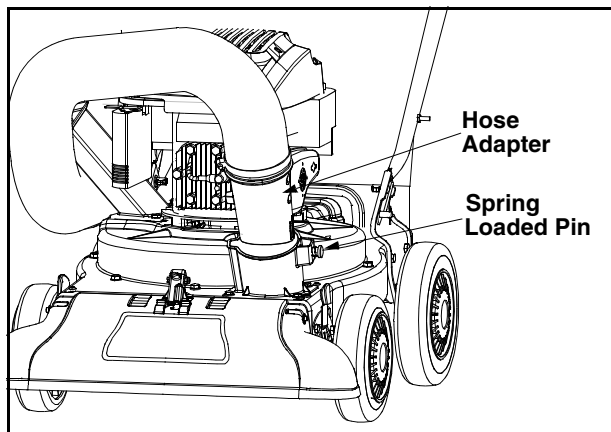

Figure 4
- Slide hose adapter of hose assembly into the base adapter located on the left front of the Yard Vacuum. See Figure 4.
- Remove bag from over the rim of the discharge opening. Refer to Figure 4.